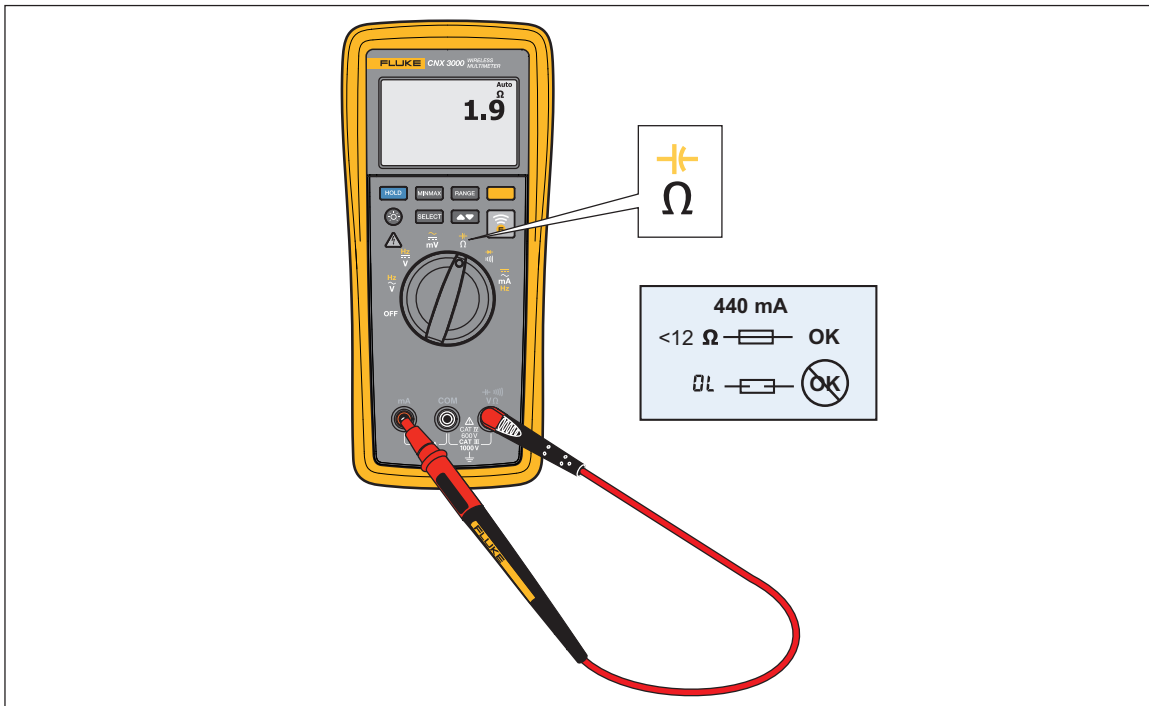

Figure 1. Fuse Test
2. Connect a test lead to the $\frac{+}{V_{\Omega}}$ jack as shown in Figure 1.